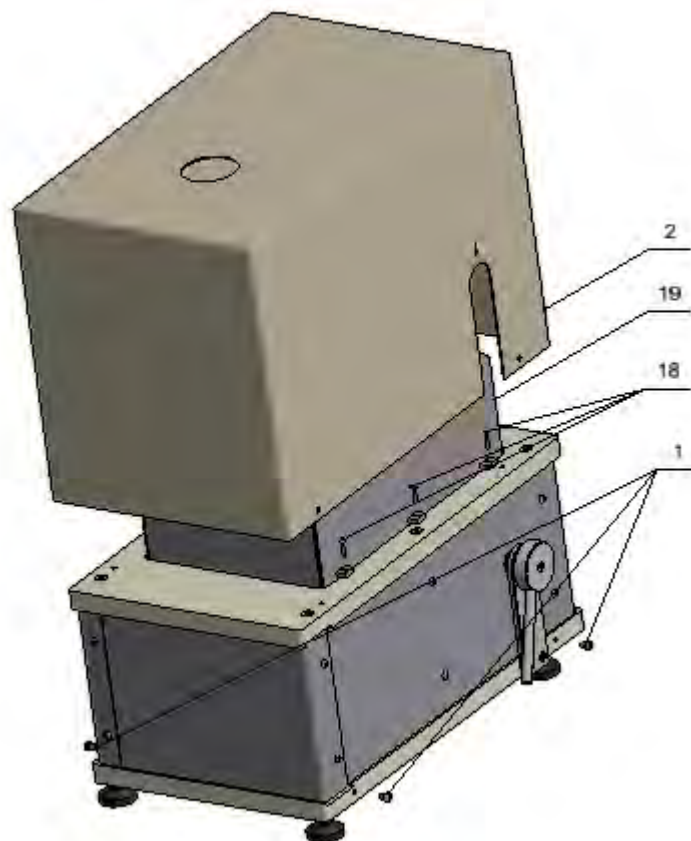

Fig.9
- 16. Fix top shield assembly (19) using six M3 screws (18). (Fig.9)
- 17. Use four M5 screws (1) to fix the housing (2). (Fig.9)